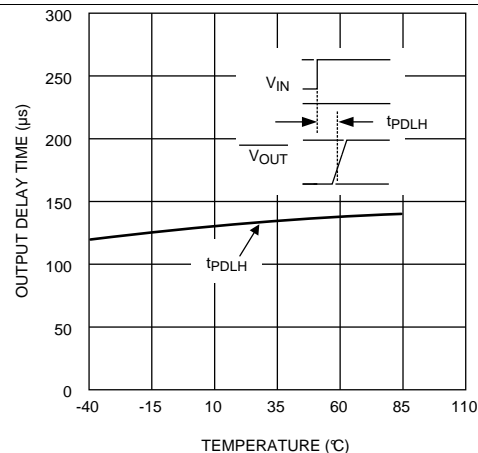

Figure 4. Propagation Delay Time (t_{PDLH}) vs Temperature
* See Figure 4 for tPDH values